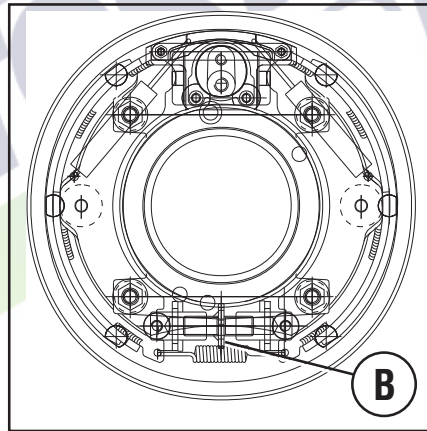

Fig. 61
- rotate the small wheel manually (B Fig. 61) to adjust the brake shoes;